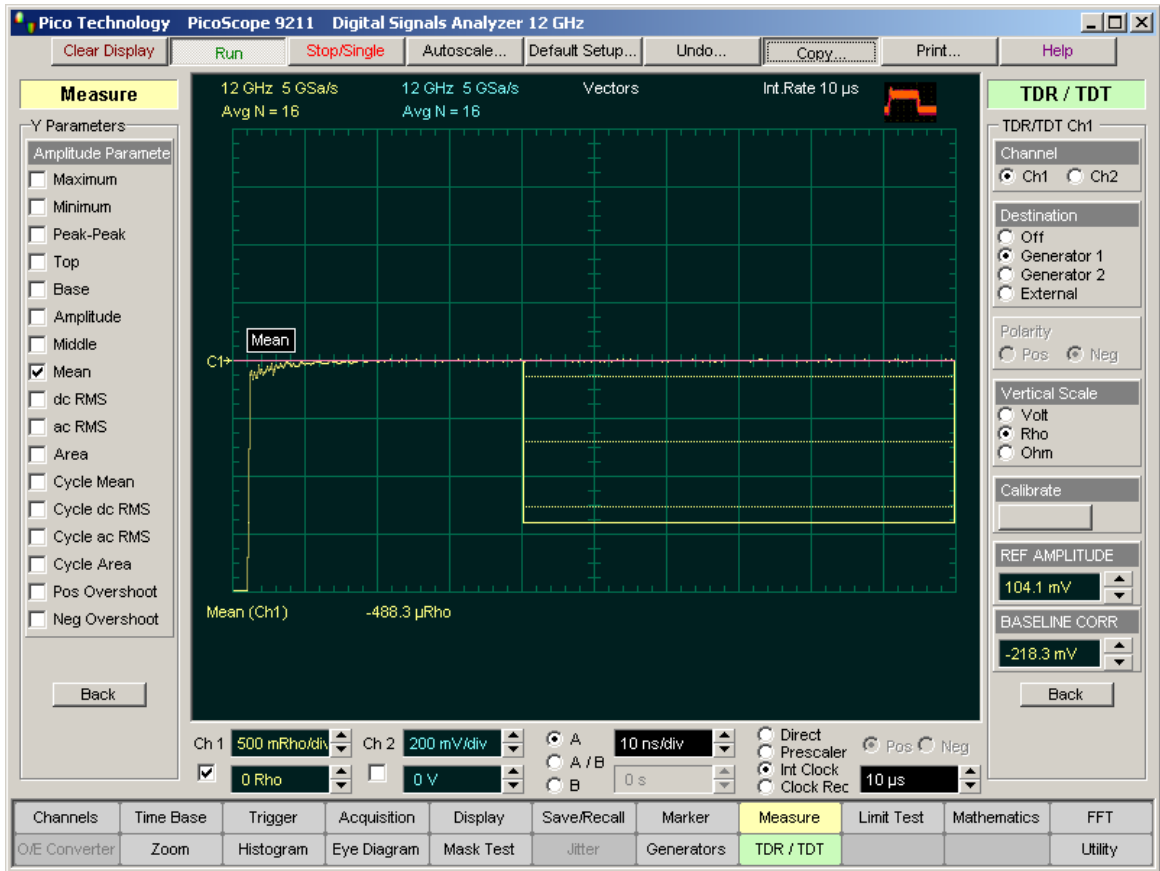

Figure 1
1. Click **Rho** in the **Vertical Scale** menu. See Figure 1.
Figure 1 shows that the rho value is near to 0 when the transmission line is terminated in 50 ohms. The **Mean** measurement shows -488.3 mrho.